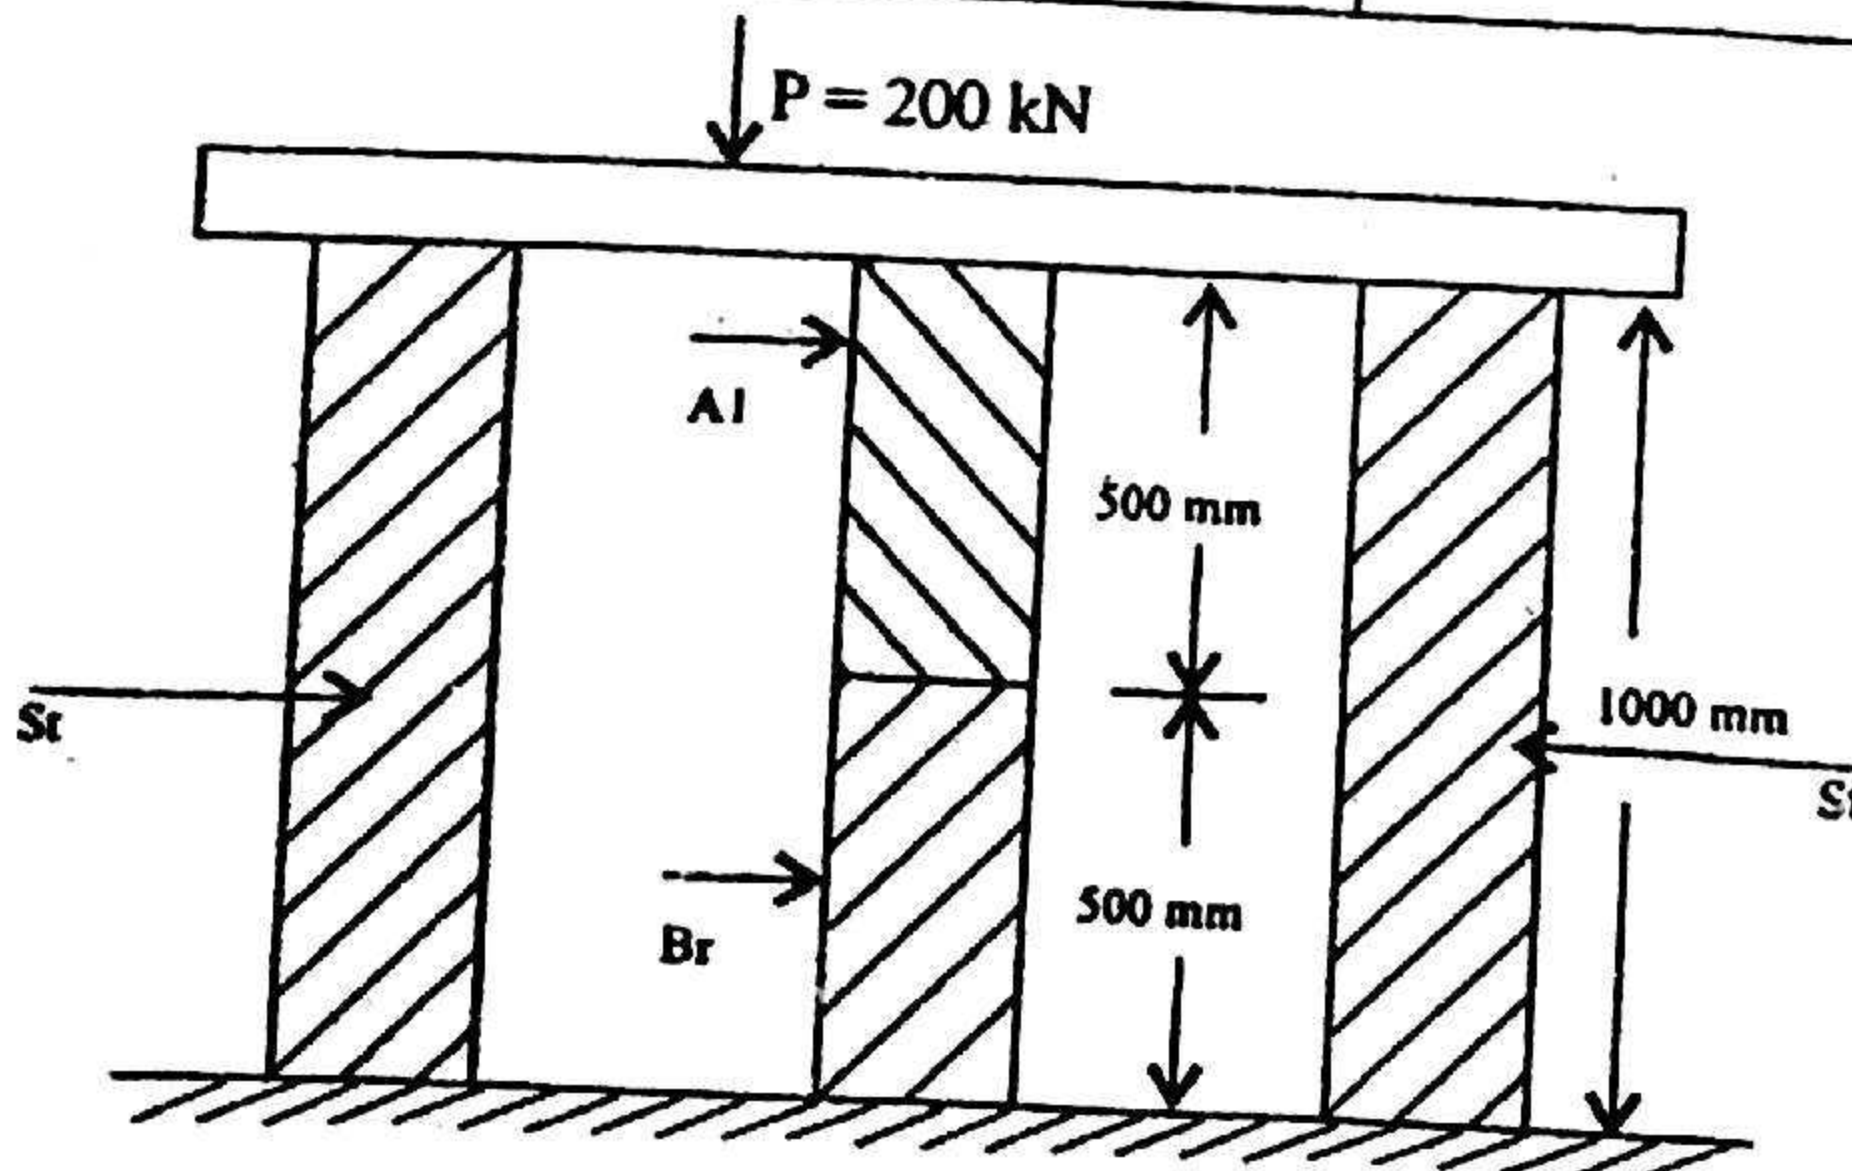

Fig. 6
6. (a) Fig. 6 shown blocks supporting rigid plate loaded with 200 kN. Determine the stresses induced in each element and reactions at support. The material properties are :